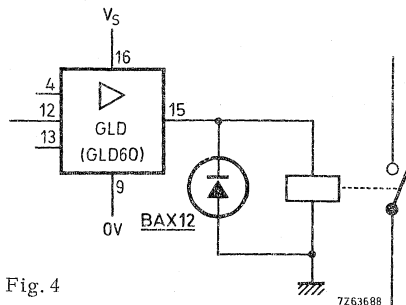

Fig. 4
- The GLD 60 makes it possible to drive loads (relays, magnetic valves etc.) of which one side has been connected to ground, Fig. 4 illustrates also the suitability of the unit for systems which from the point of safety require that the load is not activated in case of short circuit to ground of the output.